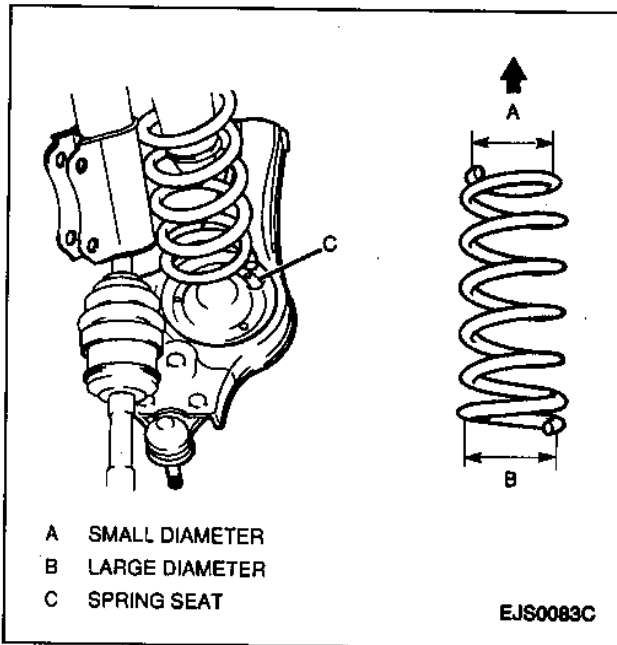

Figure 8—Coil Spring Diameter
- The bottom of the coil spring has a larger diameter than the top. Be sure to install it correctly (Figure 8).